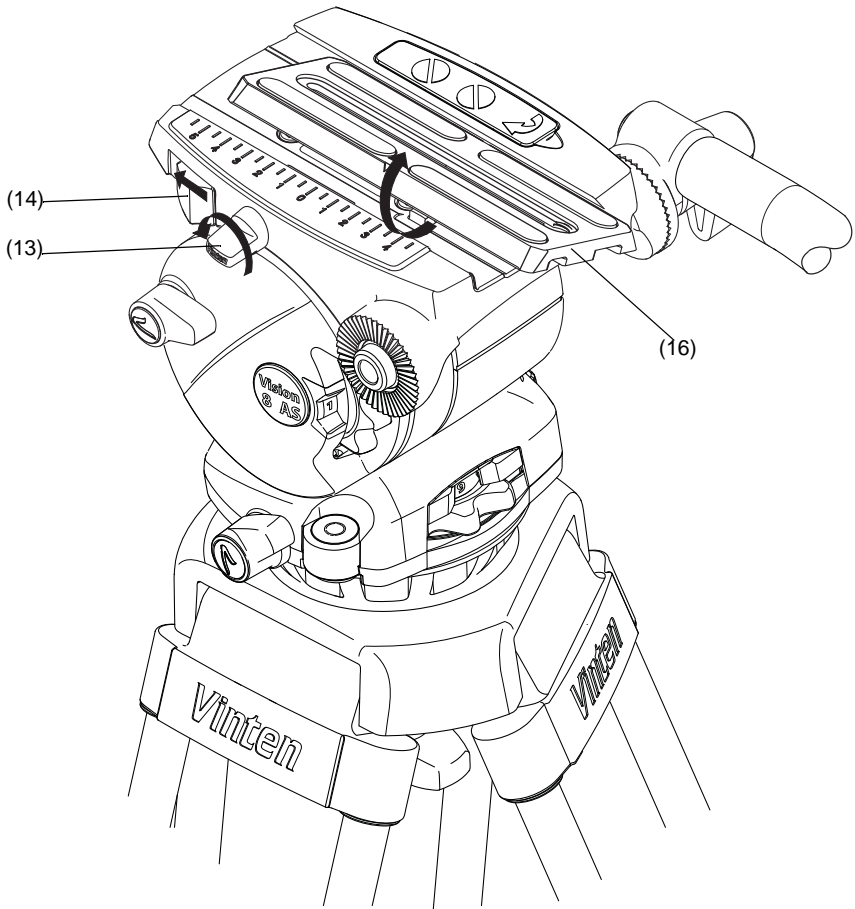

Fig. 3 Removing the camera slide plate
Remove the camera slide plate (16) from the head (Fig. 3). Turn the slide plate clamp (13) approximately 1/2 a turn in a counter-clockwise direction to release the clamp. Then push the slide lock release (14) in a forwards direction to release and eject the slide plate (16). When released, the camera slide plate (16) can be lifted upwards and removed from the head.